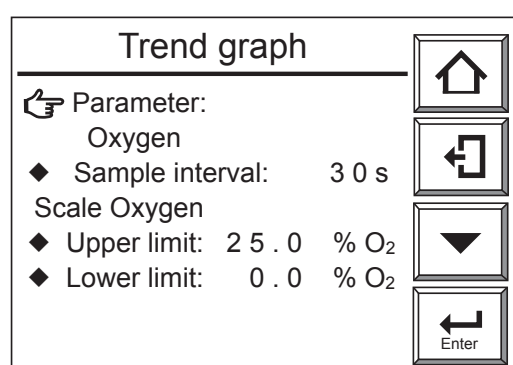

Figure 10.4 Trend Graph Display
- (1) Press the [Setup] key in the Basic panel display to display the Execution/Setup display. Select “Maintenance” from the Execution/Setup display.
- (2) Select “Display setup” from the Maintenance display.
- (3) Select “Trend graph” from the Display setup display. The Trend graph display shown in Figure 10.4 appears.
- (4) Select “Parameter: Oxygen” from the Trend graph display. Then select the desired display item shown in Table 10.2.